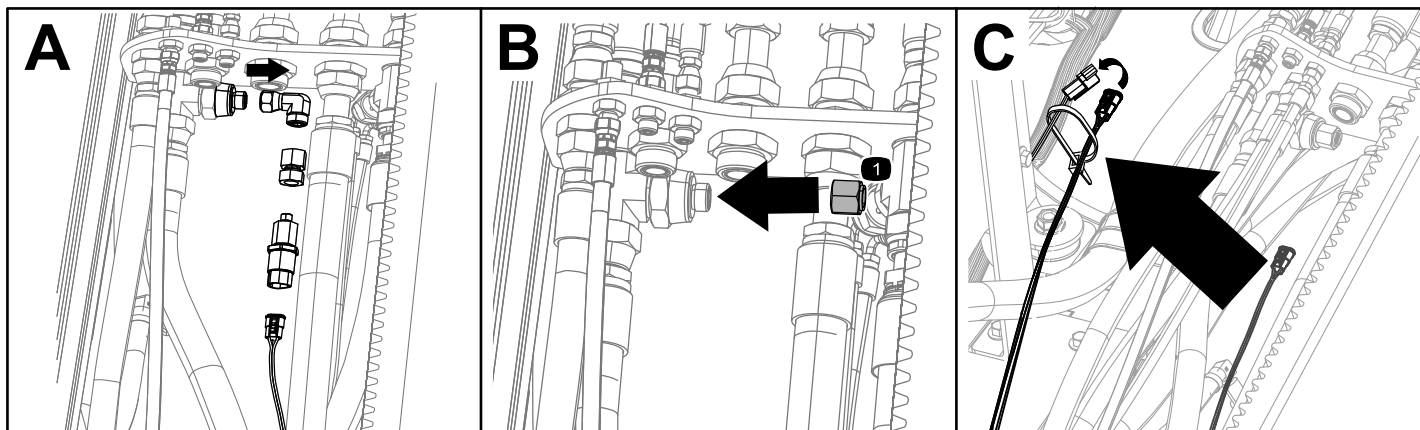

Figure 8
2. Disconnect the wire harness from the transducer fitting (Box A of Figure 8).
3. Remove the transducer assembly and fitting currently installed (Box A of Figure 8).
4. Install the cap onto the port (Box B of Figure 8).
5. Move the current harnesses over to the frame and connect it to the new wire harness (Box C of Figure 8).